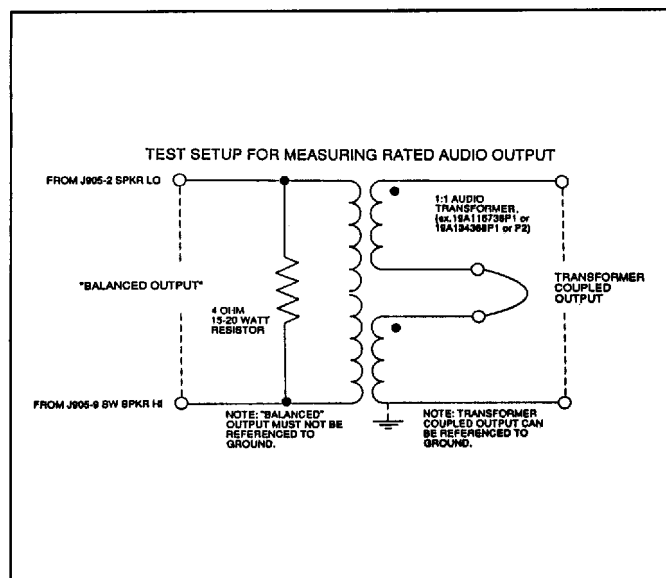

Figure 1 - Audio Output Test Setup
2. Check for greater than 12 dB SINAD on-channel at the RX Audio output, on the TQ3310 or external speaker leads of option connector J905-2,9 (see Figure 1).
2. Monitor option connector J905-2,9 and adjust volume for 10 watts output (6.3 Vrms into 4 ohms). Distortion should be less than 5%. **NOTE: The 10 watt PA has "balanced outputs" and must be tested with the test setup shown in Figure 1.**